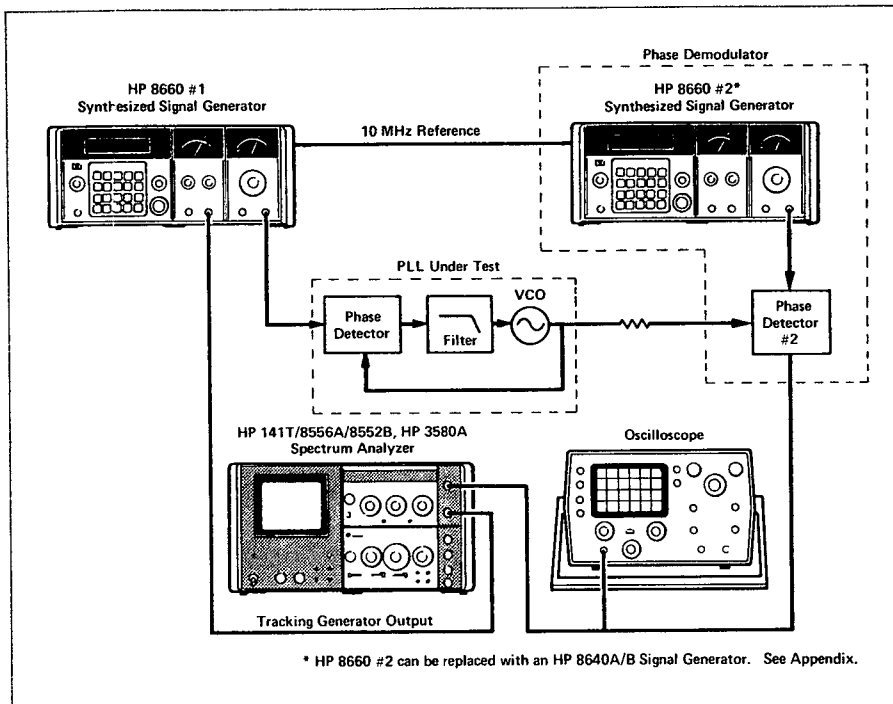

Figure 2. PLL Analysis Setup Using a Low Frequency Spectrum Analyzer.
The system illustrated in Figure 2 can be used to obtain a swept display of PLL amplitude versus frequency response. This makes it extremely valuable for monitoring the PLL frequency response while making adjustments on the loop. It can be effectively used to analyze PLL's at rates from 5 Hz to 300 kHz depending on which spectrum analyzer is used.
1. With the modulation off in both 8660's connect the equipment as shown in Figure 2. Both 8660's must be connected to the same frequency reference to ensure frequency coherence. The resistor shown in Figure 2 is necessary to ensure that the VCO and PLL phase detector operation is not affected by connection of the test circuit.